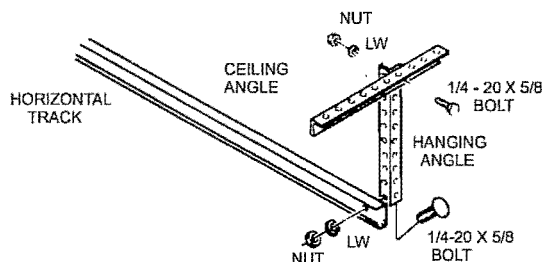

FIGURE 11
- Secure hanging angles to ceiling angles and track using hex head bolts (not supplied). (See Figure 11)